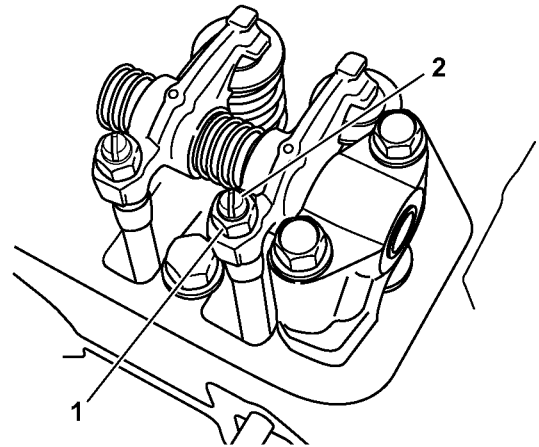

Figure 6-38
5. Loosen the valve adjusting screw lock nut (**Figure 6-38, (1)**) and valve adjusting screw (**Figure 6-38, (2)**) on the rocker arm and check the valve for inclination of the valve cap, entrance of dirt, or wear.
6. Insert a feeler gauge of the correct thickness (**Figure 6-39, (1)**) (see *Adjustment Specifications* on page 6-4) between the rocker arm and valve cap. Turn the valve adjustment screw to adjust the valve clearance so there is a slight "drag" on the feeler gauge when sliding it between the rocker arm and the valve cap. Hold the adjusting screw while tightening the valve adjusting screw lock nut (**Figure 6-38, (1)**). Recheck the clearance.